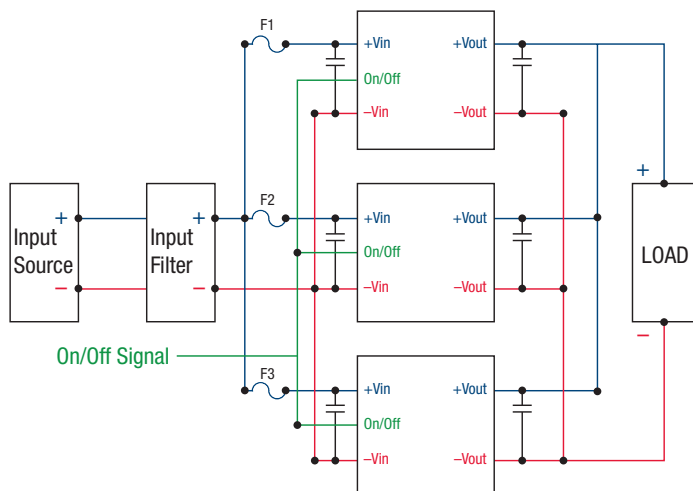

Figure 2. Load Sharing Block Diagram
Two or more converters may be connected in parallel at both the input and output terminals to support higher output current (total power, see figure 2) or to improve reliability due to the reduced stress that results when the modules are operating below their rated limits. For applications requiring current share, follow the guidelines below. See specification table for Output Voltage set points. The stated output voltage set point is trimmed to a very narrow range ($11.7V \pm 10mV$ @48Vin, 50% load). The output voltage will decrease when the load current is increased. Our goal is to have each converter contribute nearly identical current into the output load under all input, environmental and load conditions.
- It is required to use a common Remote On/Off logic control signal to turn on modules (see figure 2).